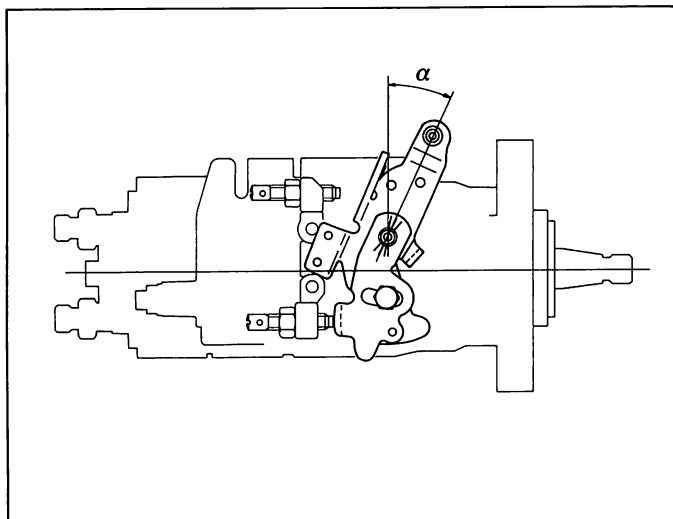

Fig. 122 Adjusting the control lever angle " $\alpha^\circ$ "
- 5 After the idling injection quantity adjustment, set the control lever base by loosening the fixing bolt so that the control lever angle is as specified ( $\alpha$ ) when measured using the measuring device. (Fig.122)